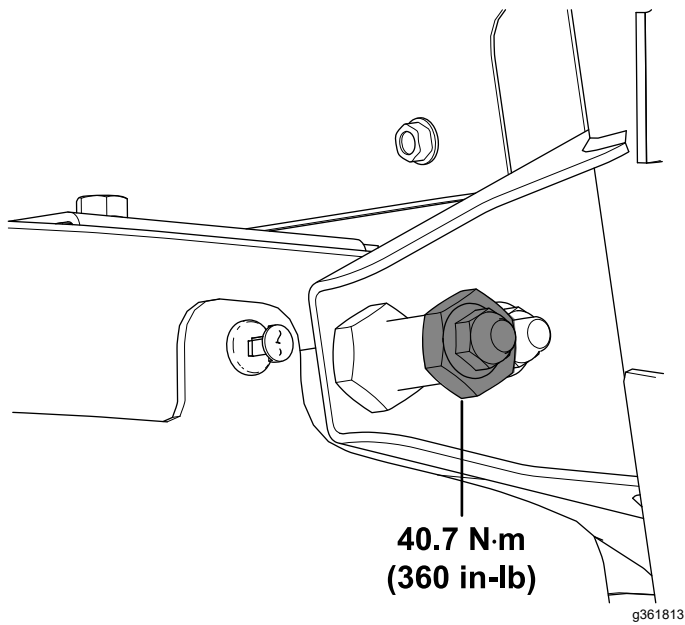

Figure 33
21. Torque the locknut (3/8 inch) to 40.7 N·m (360 in-lb) as shown in Figure 33.